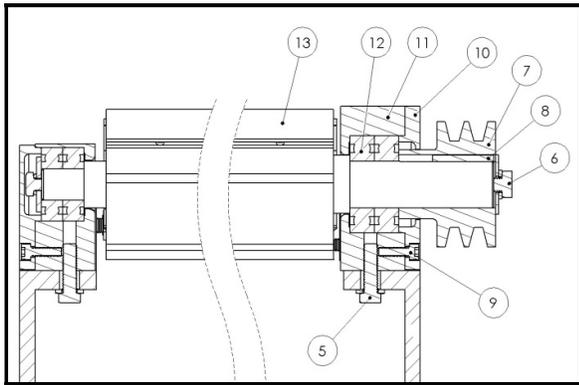

Fig. 20
4. Loosen two studs (5), remove the cutterhead assembly. Fig.20
5. Loosen lock screw (6) and pull out belt pulley (7) and key (8). Fig.20
6. Take down screw (9) on both sides and also bearing cover (10). Fig.20
7. Remove bearing housing (11), bearing (12) and the cutterhead (13). Fig.20